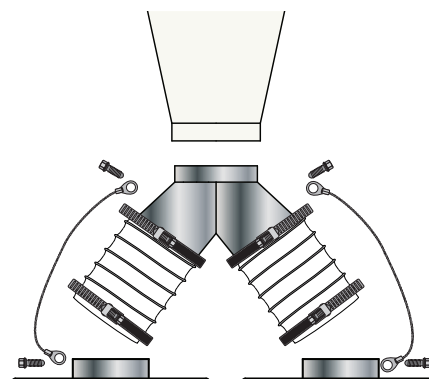

FIG. 22b
If you purchased the Dual Drum setup, statically ground the Drums (L) by attaching both of the 14" Grounding Cables (E1); Drive the 3/8" Self-Tapping Screw through its eyelet and into the bottom of each leg of the Pants Wye (M). Repeat using the second set of 3/8" Self-Tapping Screws on the Lids' Collared Inlet (K). [FIG. 22b].